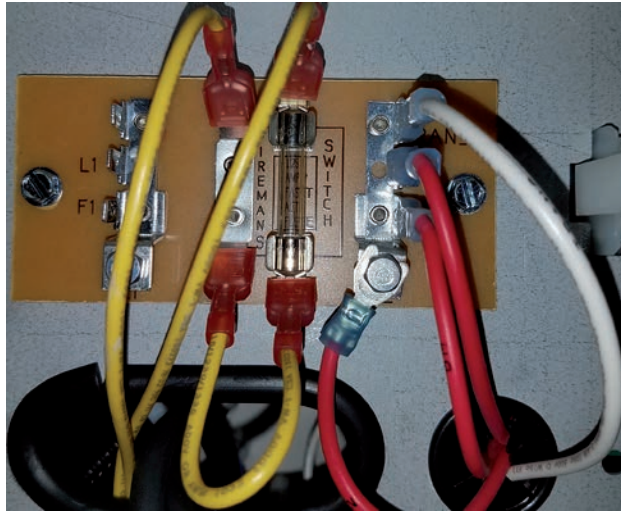

Figure 33.
3. Locate the **Fireman Switch jumper wire**; remove the wire. See Figure 33 below.
4. Connect the **Remote Control Dry Contact wires**. See Figure 33 below.